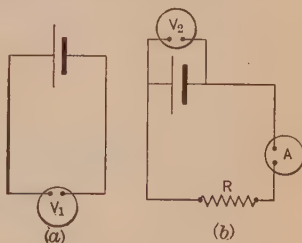

FIG. 172.
**Prob. 20.** A voltmeter put across a cell as in Fig. 172 (a) reads 1.46 volts. When put across the same cell connected as in Fig. 172 (b) the voltmeter reads 0.92 volt. The ammeter *A* reads 6.4 amp.